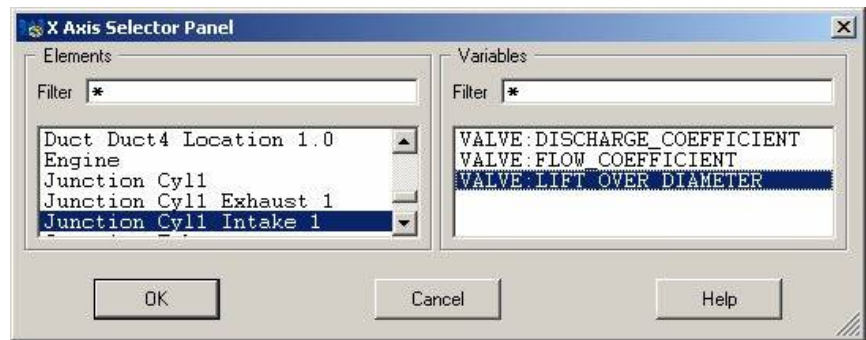

Figure 3: X Axis Selector Panel
Right-click on the **Time Plots** folder and select the **Add Time Plot...** option—a blank time plot window will open. Double-click on the Time Plot #5 title to open the Annotation Panel. Type **"Intake Valve Coefficients"** in the Heading text box and set the **Font** to **Duplex** and the **Size** to **15**. Click **OK** to close the Annotation Panel. Select the **Data...** option from the **Add** pull-down menu to open the Time **Data** Panel. In the Output Sets option menu, highlight the single set that is available (named **filename.wvd:Case 1**). In the Independent Variable (X) section of the panel, select the Custom option and then click on the Edit... button to open the X Axis Selector Panel. Highlight the **Junction Cyl1 Intake 1** option in the Elements option menu and select **Valve Lift Over** Diameter in the Variables option menu. The **X Axis Selector** Panel should appear as in **Figure 3**, right. Click the OK button to save the selections and close the panel. Back in the Time Data Panel, under the Elements option menu, highlight the **Junction Cyl1 Intake 1** option and pick **Valve Flow Coefficient** in the Variables option menu. When finished, the Time Data Panel should appear as in **Figure 4**.